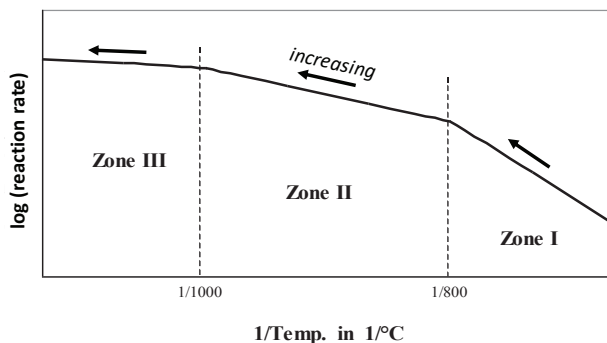

Figure 3. Burning rates of graphite as a function of temperature
(800–1,000°C) “transition area btw. reaction and diffusion” and later Zone III > 2012°F (1,100°C) “diffusion controlled,” as noted in Marsh. Figure 3 shows the effect following the carbon combustion reaction after equation (1), following Marsh.